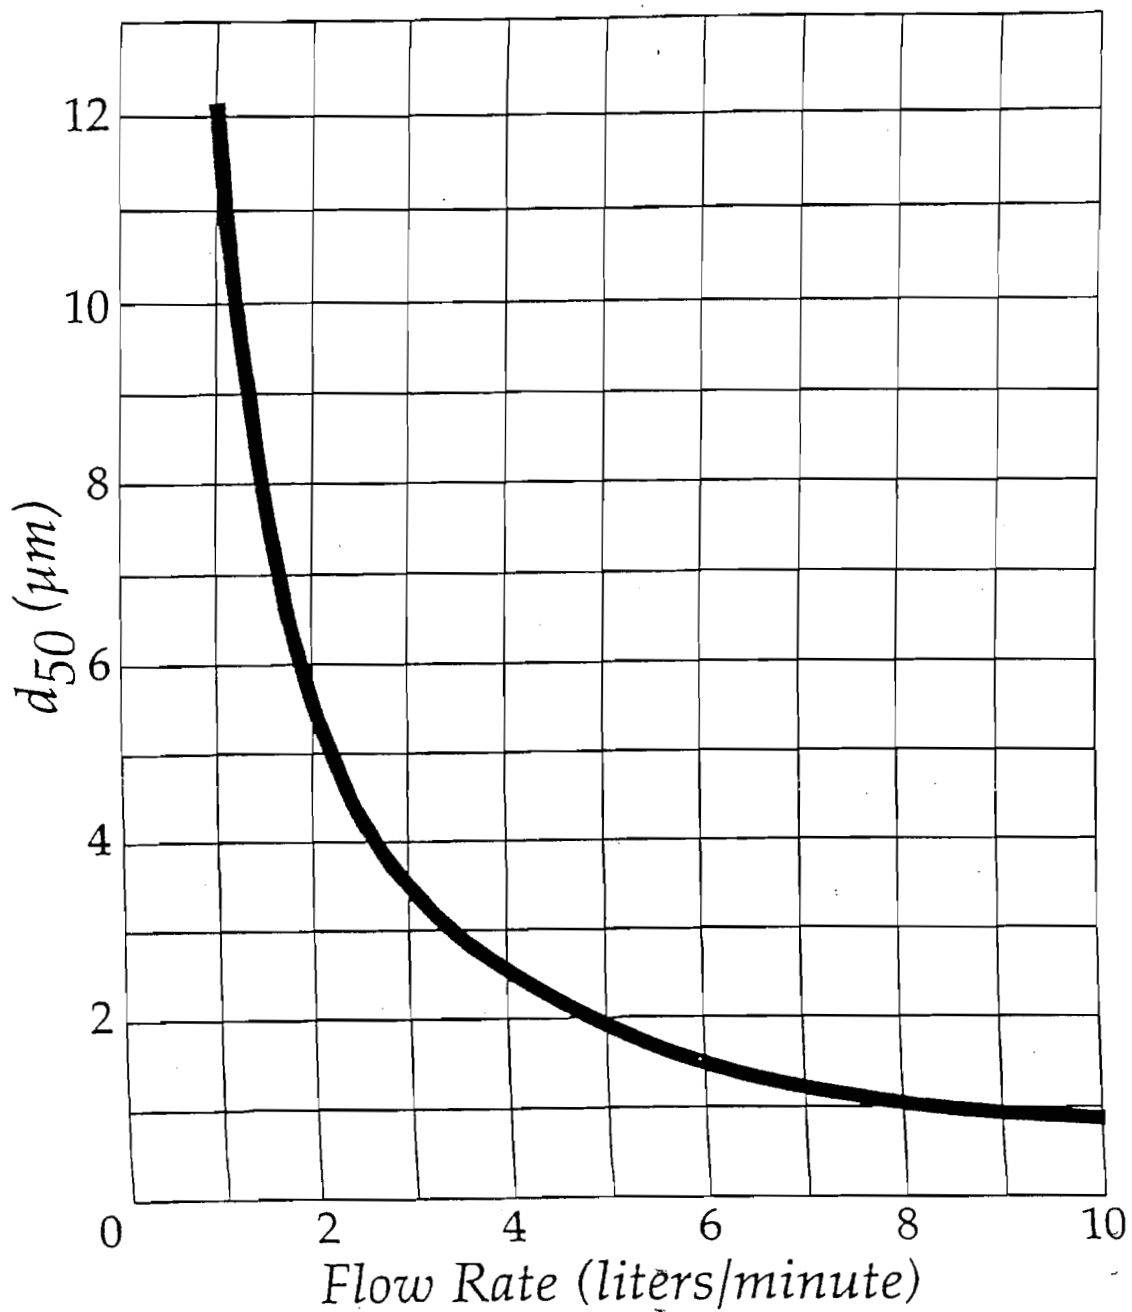

Figure 7. GK 2.05 Cyclone Cut Point (d_{50}) as a Function of Flow Rate
The pDR-1200 can be used to monitor a specific particle size fraction below a selectable cut off equivalent aerodynamic diameter. The particle size cut point can be selected by adjustment of the sampling flow rate. The higher this flow rate through the cyclone the smaller the cut off particle diameter. Figure 7 is a graph showing the dependence of the particle cut off size in micrometers as a function of the sampling flow rate in liters per minute. The cut off size is the particle aerodynamic diameter at which the collection efficiency of the cyclone is 50%, or conversely, the size at which the cyclone transmission is 50%. For example, to obtain a particle size cut off of 2.5 μm (i.e., PM_{2.5}), the required sampling flow rate is 4 liters/minute. At that flow rate only particles smaller than (approximately) 2.5 μm are allowed to pass into the pDR-1200 sensing stage, to be monitored and then to be collected on the filter.
As can be seen on Fig. 7, the lowest particle size cut for the GK 2.05 cyclone included with the pDR-1200 is about 1 μm , and the largest is about 12 μm . For particle size classification outside this range, consult with MIE.
One simple procedure to determine the median particle size is as follows (please refer to the graph of Fig. 7):
- Enter the final flow rate for which the TWA value is one-half of the initial value into the graph of Fig. 7 and read the corresponding d50 particle size in micrometers. This represents the mass median particle diameter of the aerosol.
For example, if the TWA value without the cyclone was 0.8 mg/m^3 , and the flow rate (with the cyclone attached) required to reduce the TWA to 0.4 mg/m^3 is 2 liters/minute, the mass median particle size (as obtained from the curve of Fig. 7) is approximately $5.5 \mu\text{m}$.